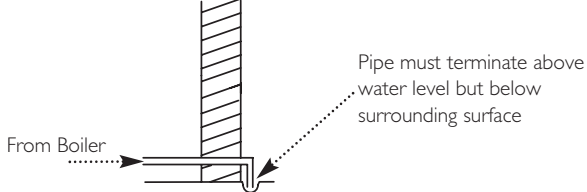

Fig. 15
- iii) to a drain or gully - Fig. 15. Ensure that the condensate can discharge freely (without blockage or restriction of the pipe) into the drain.